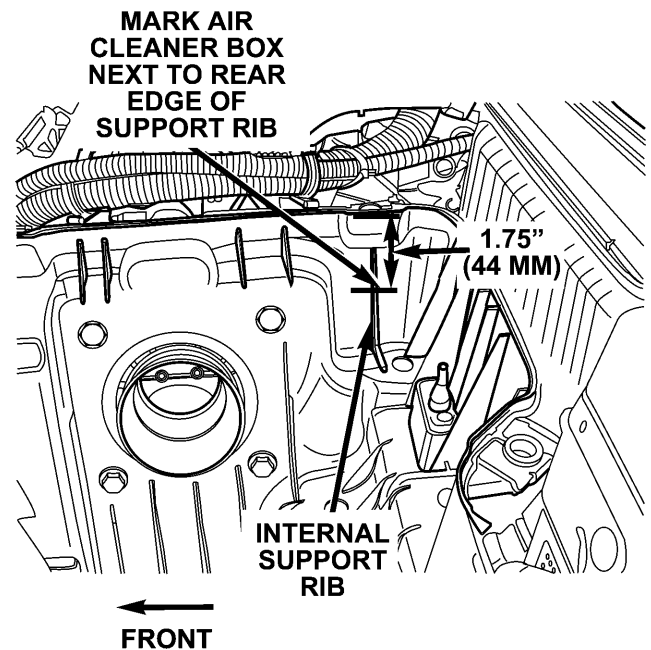

Figure 4
- Mark the inside of the air cleaner 1.75" (44 mm) down from the top next to the rear edge of the support rib (Figure 4).
- Drill a 1/8" (1.6 mm) diameter pilot hole in the right side of the air cleaner at the location marked above (Figure 4).